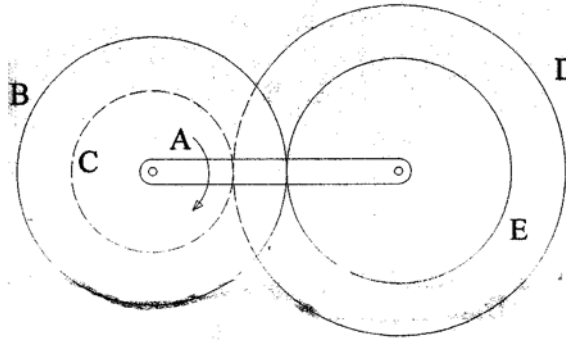

Fig. 1
- b) In a reverted epicyclic train (Fig. 1), the arm A carries two wheels B and C and a compound wheel D-E. The wheel B gears with wheel E and the wheel C gears with wheel D. The number of teeth on wheels B, C and D are 75, 30 and 90 respectively. Find the speed and direction of wheel C when wheel B is fixed and arm A makes 100 r.p.m. clockwise.